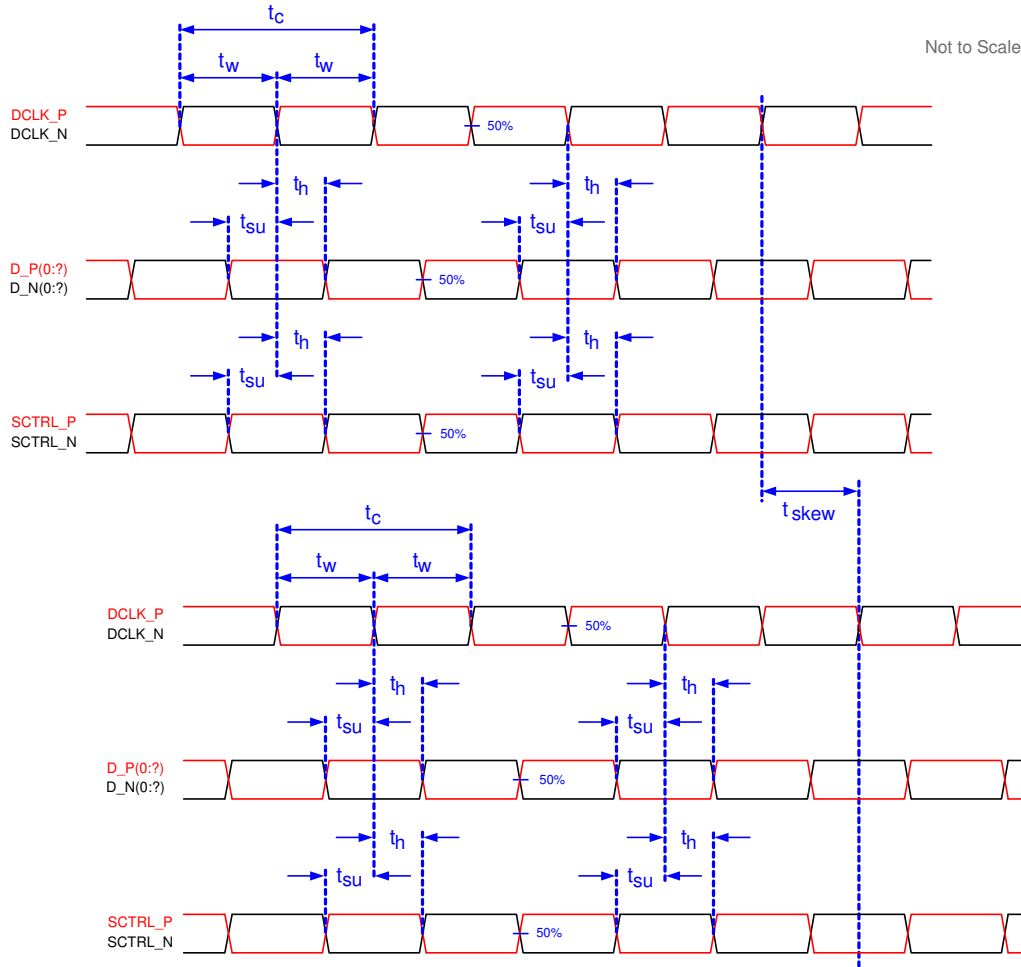

Figure 6-7. Timing Requirements
- (7) See LVDS Timing Requirements in Section 6.7 and Figure 6-7.